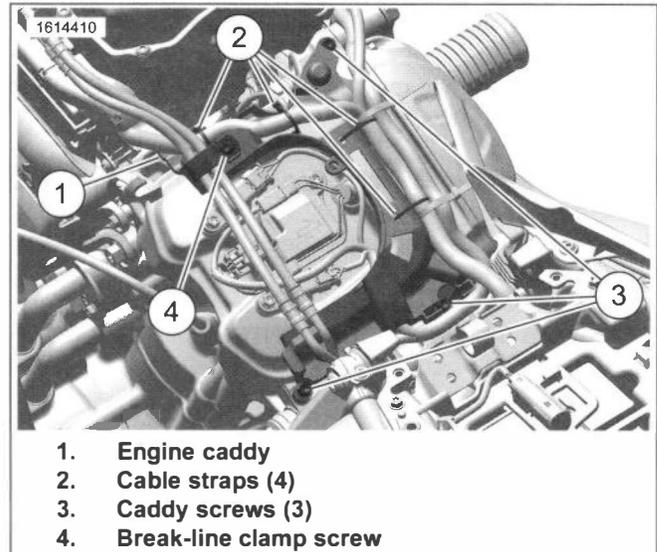

Figure 8-81. Cylinder Head Cover Caddy
1. See Figure 8-81. Remove screw (4).
2. Remove cable straps (2) and discard.
3. Remove screws (3).
1. See Figure 8-81. Install cylinder head cover caddy (1).
2. Install screws (3). Tighten.